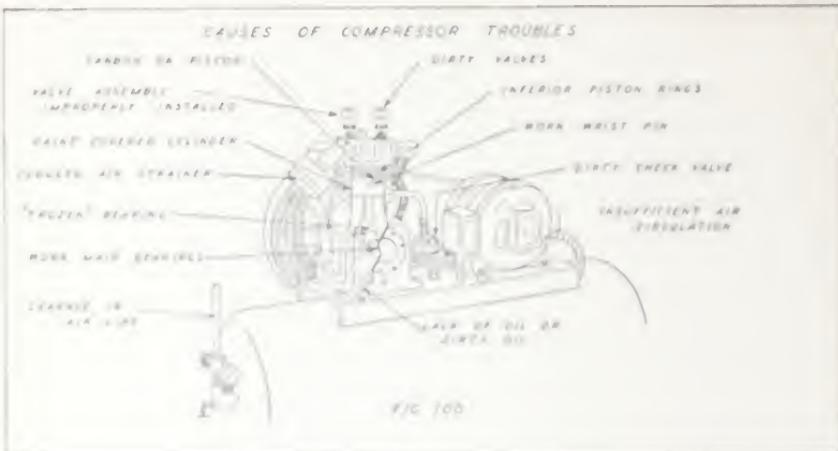

FIG. 100
- (a) Carbon on Piston (Fig. 100).
- (a) No oil in crankcase (Fig. 100).
- (a) Clogged Air Strainer (Fig. 100).